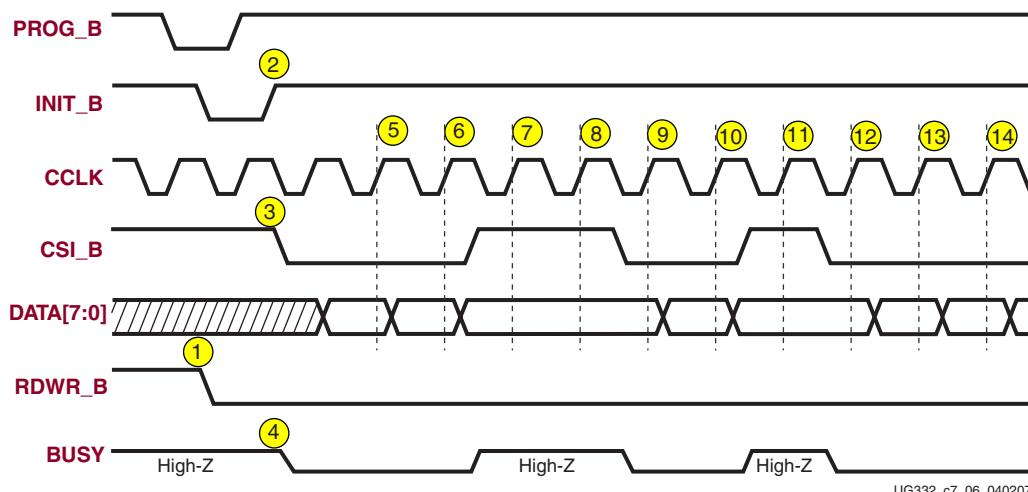

Figure 7-6: **SelectMAP Non-Continuous Data Loading with Controlled CSI\_B**
1. Deassert the **CSI\_B** signal with a free-running **CCLK**, shown in Figure 7-6 and described in “Deasserting CSI\\_B,” page 187.
The following numbered items correspond to the markers provided in Figure 7-6.